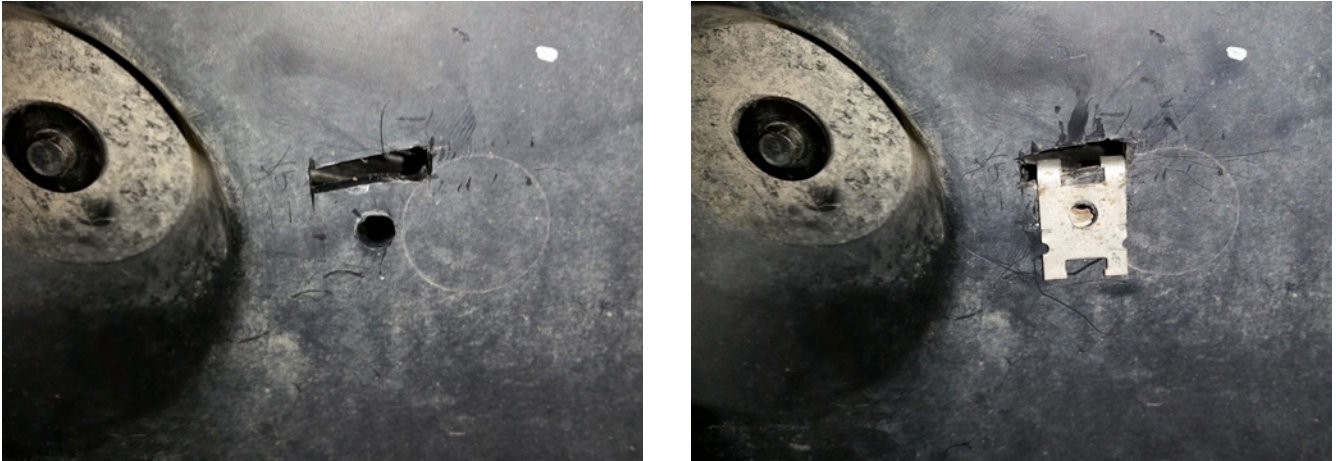

Figure 45
- H. Remove liner and install factory u-nuts into factory liner over 1/4" holes just drilled (fig. 45).